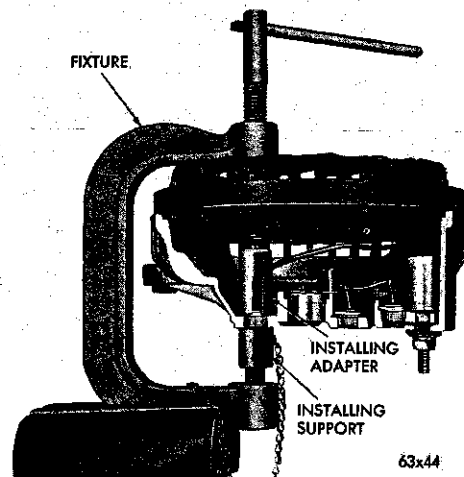

Fig. 32—Installing a Rectifier
(2) Support the heat sink or rectifier end shield on the installer adapter SP-3820 of Tool C-3928. Carefully apply pressure with the tool pressure screw until the installer tool, rectifier, rectifier end shield or heat sink are in alignment and after determining that the rectifier is started squarely in the casting, slowly apply pressure with the tool pressure screw until you feel the collar of the rectifier bottom against the casting (Fig. 32).